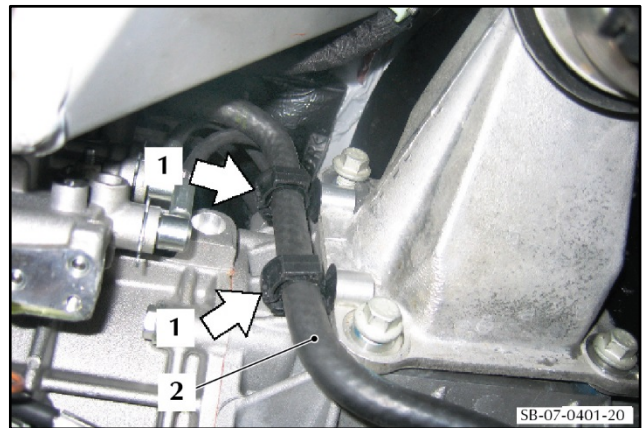

Figure 54
- 108. Put the reservoir hose (1) into position in the two clips (2) that attach it to the left side mount bracket (refer to Figure 54). Install the reservoir hose into the two clips (1).